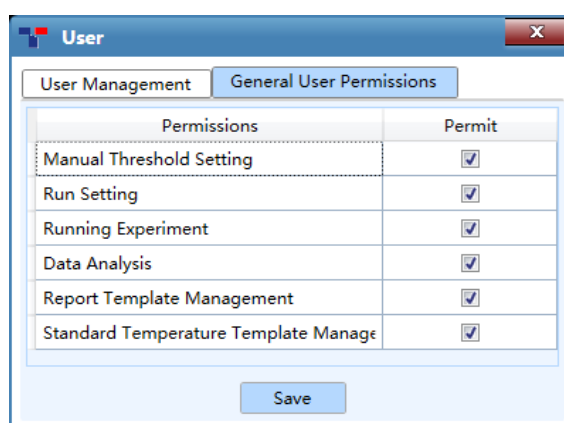

Figure D-3.6b User interface - General User Permissions tab
- ▶ **General User Permissions** tab: as shown in figure D-3.6b.